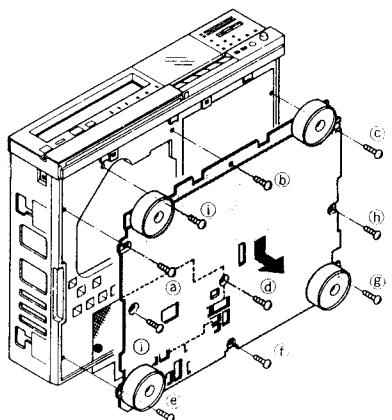

Fig. 2-2
- 1) Remove the ten screws (②, ③, ④, ⑤, ⑥, ⑦, ⑧, ⑨, ⑩ and ⑪) retaining the bottom cover as shown in Fig. 2-2.